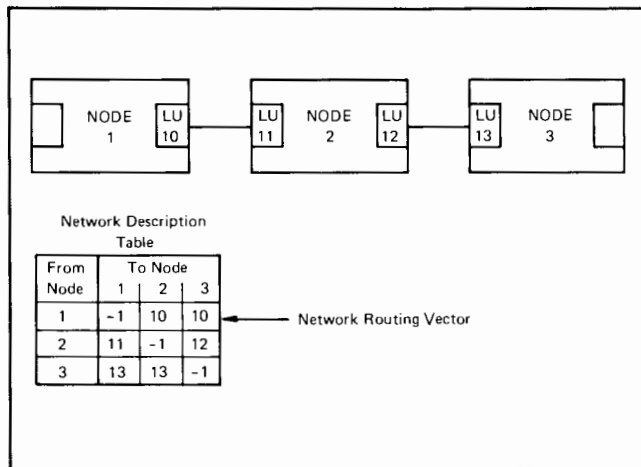

Figure 1. Nodal addressing via Network Description Table
Node numbers for DS/1000 network connections are specified after an RTE operating system has been generated and loaded. A Network Routing Vector (NRV), which specifies the logical unit number (LU) through which any DS/1000 transaction goes to get from the local node to the target node, can be generated interactively or read from a Network Description Table (NDT) file at each DS/1000 node. An NDT specifies every connection in the DS/1000 network and consists of a list of the NRV's which reside in each node. An example is shown in Figure 1.
Using the example of Figure 1, a transaction goes from node 1 to node 2 or node 3 via LU10. At node 2, the DS/1000 communications management processors examine the destination node address on the transaction and either link the transaction to the local network interface monitors for processing if addressed to node 2, or forward the transaction to node 3 via LU12. The NRV describes a single communications path between any two HP 1000 nodes regardless of whether there is a direct, neighbor connection between them. Store-and-forward communications are not limited to a specified number of levels. However, store and forward to or through an HP 3000 system is not supported.